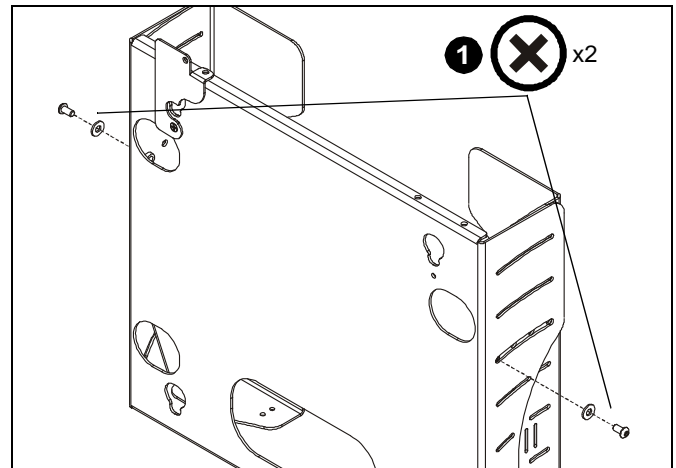

Figure 2
1. Using key (F), remove and retain *upper* front plate attach screws and washers (See Figure 2).